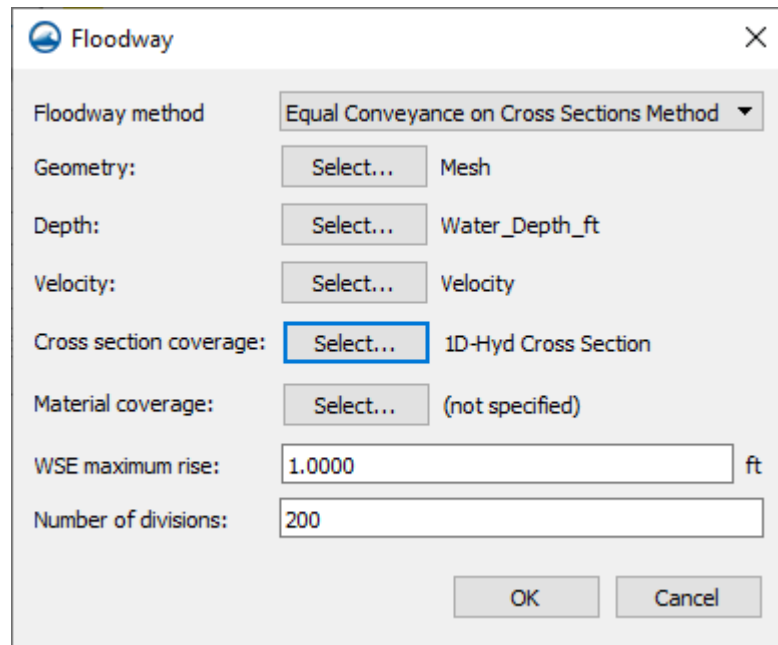

Figure 2 Floodway dialog
1. Right-click “1D-Hyd Centerline” and select **Floodway...** to bring up the *Floodway* dialog (Figure 2).